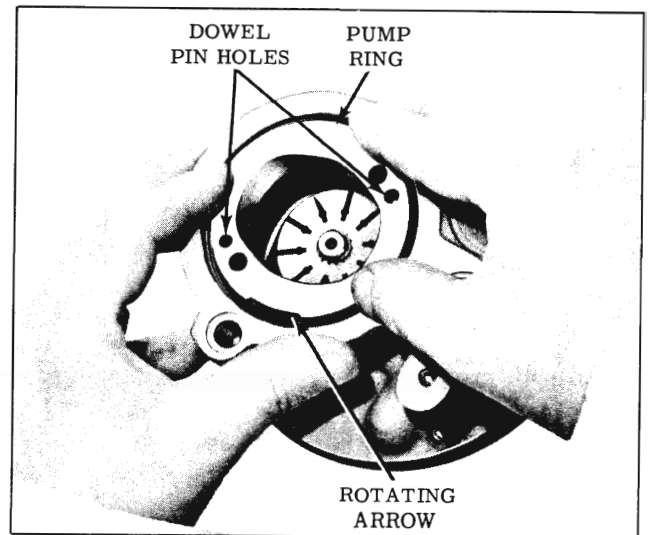

Fig. 4-242 Installing Pump Ring
5. Install pump ring on dowel pins with direction of rotation arrow to the rear of the pump housing. (Fig. 4-242) Rotation is clockwise.